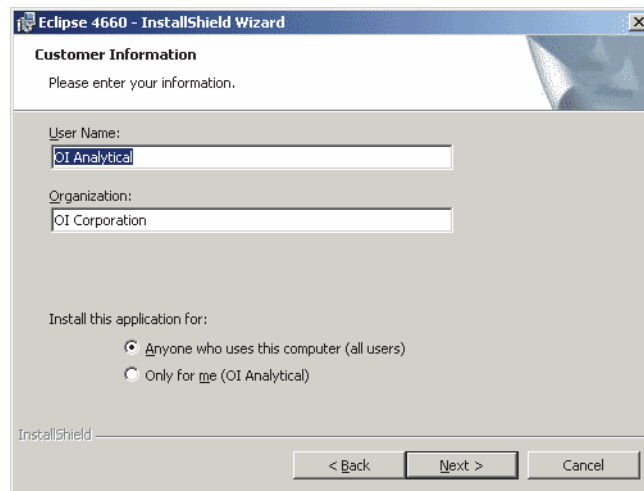

Figure 3.16. Customer Information screen
- The Customer Information screen (Figure 3.16) appears during installation. Enter the appropriate information.